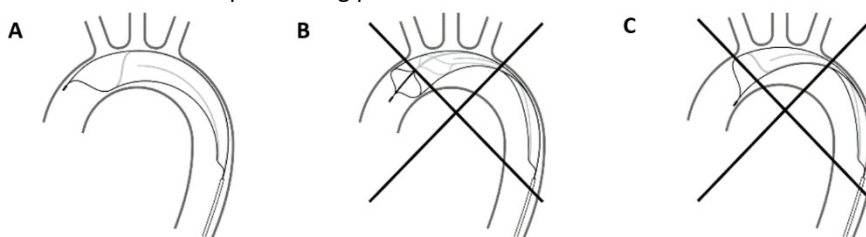

Figure 8 - FLOWer device correct positioning (A-left); device incorrect positioning (B-center, C-right)
- If resistance is perceived when starting the distal structure expansion, fully collapse it, advance the outer catheter (K) until it reaches the tip by fully advancing the outer catheter slider (B), retract the FLOWer, and then advance it again. Attempt positioning once more; if the issue persists, replace the device.
- During the deployment pay attention that the distal structure (F) opens correctly as in Figure 8A. If it opens incorrectly (as for example in Figure 8 B and C), the operator should retrieve the device inside its catheter as described in “13.5 Device Priming” chapter points from 17 to 22. Then, the operator should extract the device from the introducer, rotate the catheter 90° (eg. Figure 8B) or 180° (e.g., Figure 8C) and reinsert it from the introducer. Then, a new deployment procedure as described in points from 7 to 9 of this chapter can be attempted.
- Do NOT rotate the device when the distal structure (F) is fully deployed in the open position.